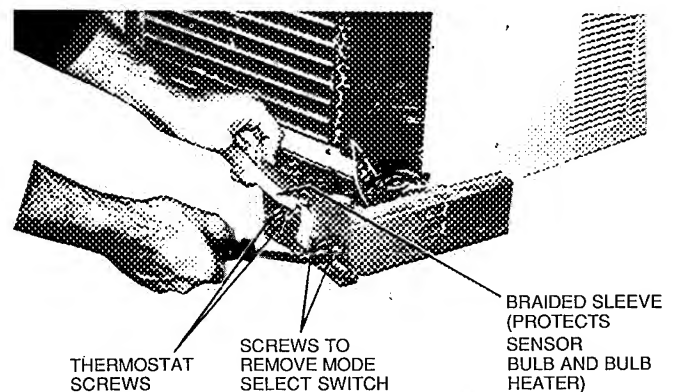

Fig. 11 — Removing Thermostat and Bulb Heater
2. Remove 2 screws holding mode switch control to control box. See Fig. 11.
2. Remove 2 screws securing thermostat to control. See Fig. 11.